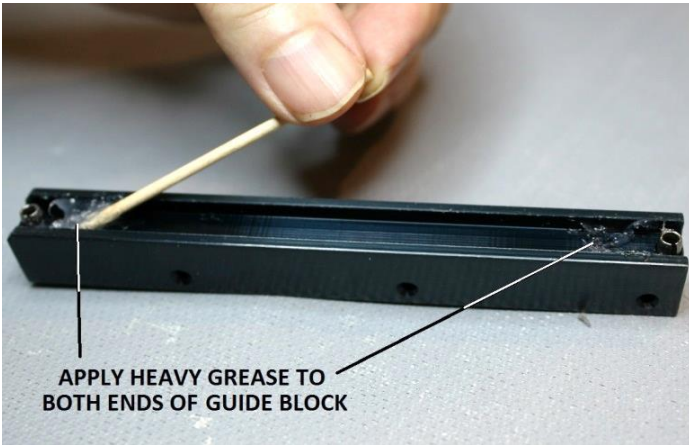

Figure 62 – Apply grease to both ends of the guide block
Apply a heavy grease (item 6 of Appendix 2) to the inside corners of both ends of the side groove in the guide block (see Figure 62).